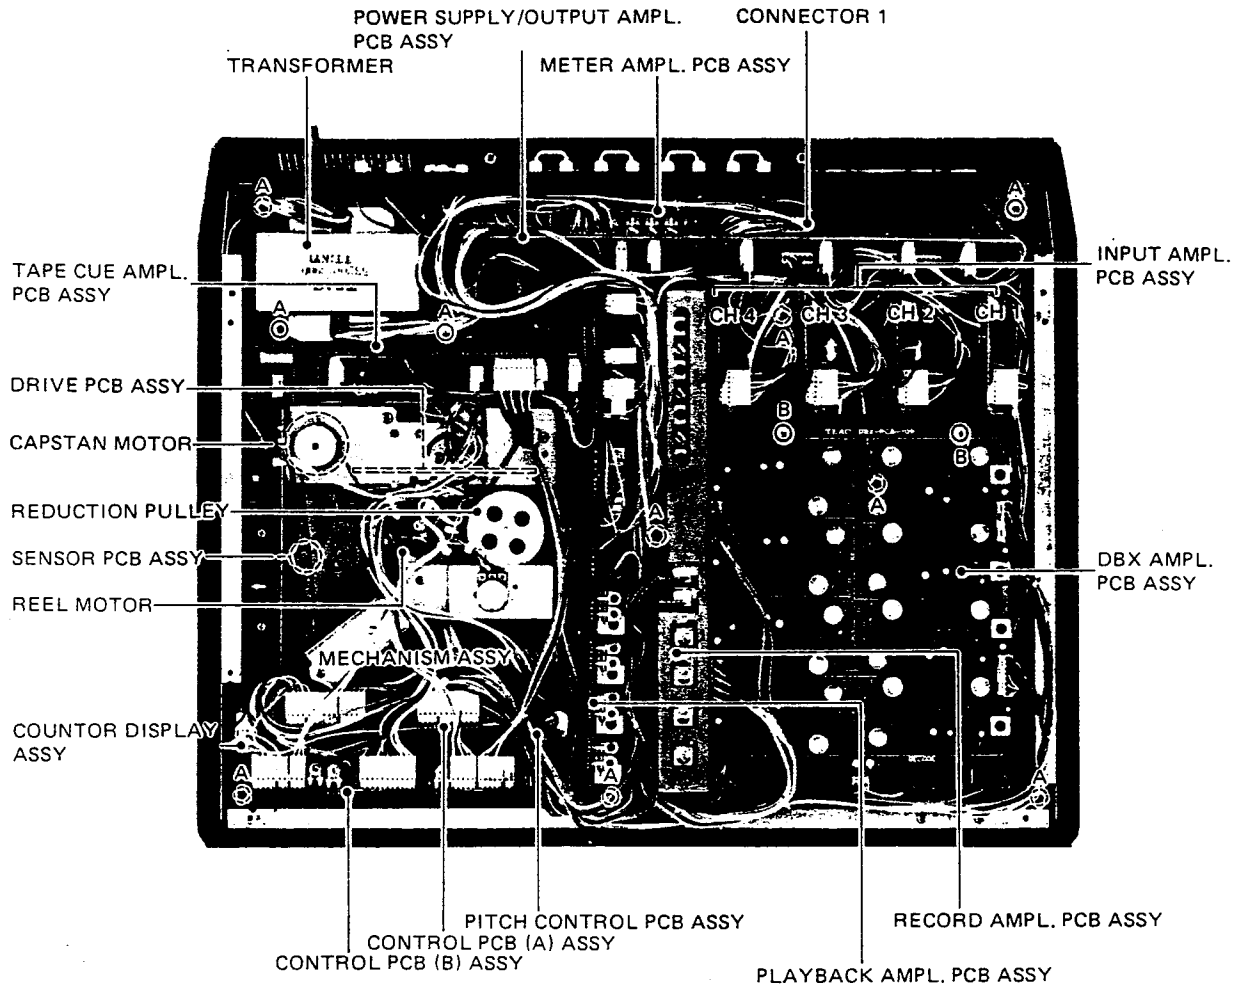

Fig. 5-1
- 2) Remove the nine tapping screws A mark from the rear side. Refer to Fig. 5-1. (Page 18)
- b) If the Trim Cover Assembly is to be removed completely, disconnect the cable harness connector (1) leading from the VU meters. Fig. 5-1.
- 1) Refer to Fig. 5-1.
- 2) Remove the bottom cover, and turn the reduction pulley (Refer to Fig. 5-1) by hand to bring the head base upon the PLAY position.